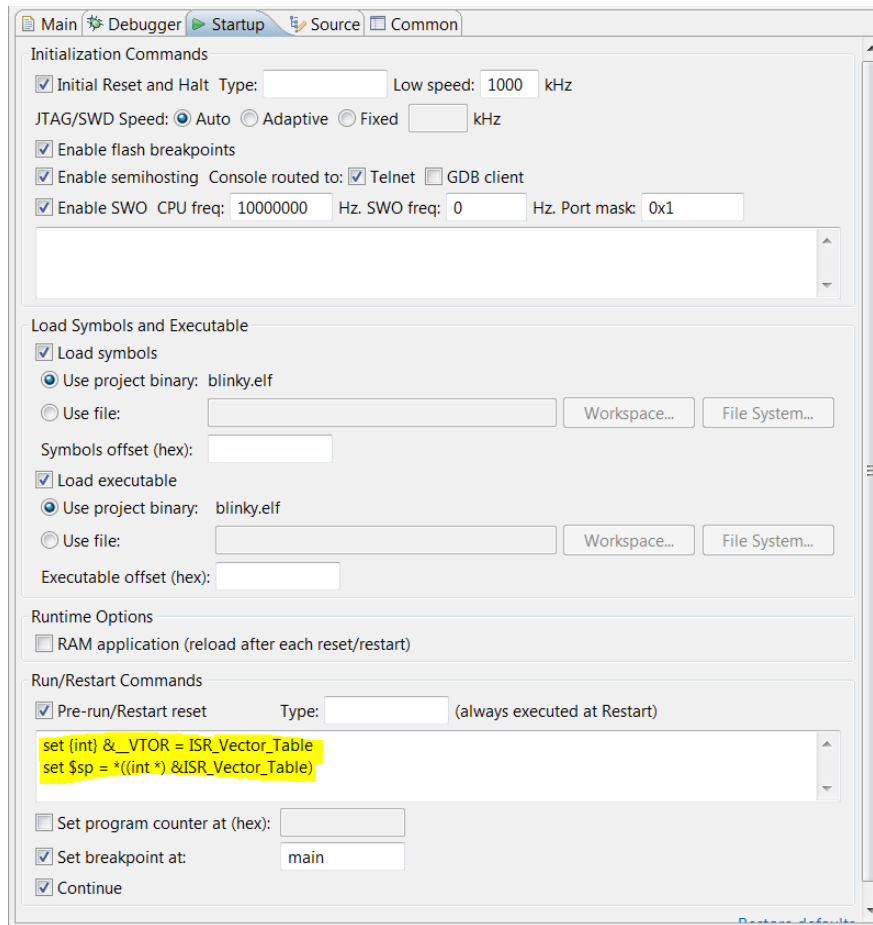

Figure 39. Setting Up a GDB Launch Configuration, Startup Tab
2. Enter the following in the **Run/Restart Commands** field as illustrated in Figure 39: